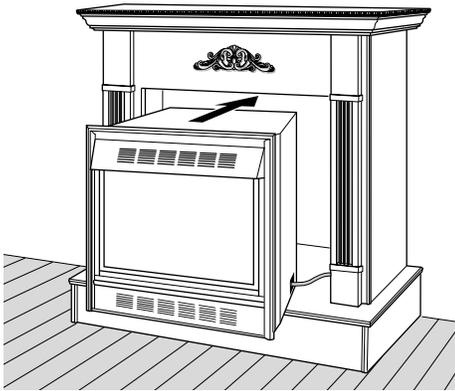

Figure 24 - Inserting Fireplace Into Cabinet Mantel
2. If installing an optional blower accessory (see *Accessories*, page 32). Install a properly grounded 120 volt, three prong electrical outlet at fireplace location if outlet is not there. If possible, locate outlet so cabinet mantel will cover it when installed (see Figure 24).
6. Place hearth base accessory against wall at installation location. Cut an access hole in hearth base top to run flexible gas line to fireplace (see Figure 24). Make sure to locate access hole so cabinet mantel will cover it when installed. *Note:* You can secure base to floor using wood screws. Countersink screw heads and putty over.
8. Carefully place fireplace on top of hearth base (Figure 24, page 13). Be careful not to scratch or damage hearth base. *Note:* You can secure fireplace to hearth or floor. Open louver door. Locate screw holes in bottom of base. Secure with wood screws through these holes and into hearth or floor.